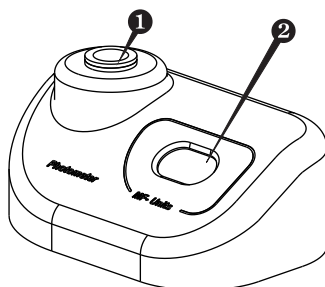

Fig.2 Front panel
- 3.4.3. Insert the tube with the standard solution, corresponding to the calibration point value, into the socket of Densitometer (fig.2/❶).
Insert the adapter into the tube socket (fig.2/❷), perform calibration.
- 4.3. The following indication may be shown on the display (fig.2/●):
- 4.4. Shake the tube with the solution (it is recommended to use a vortex mixer, e.g. Vortexer PV-1, for shaking) and insert it into the socket (fig.2/●). The McFarland value for the solution will be shown on the display (fig.2/●).